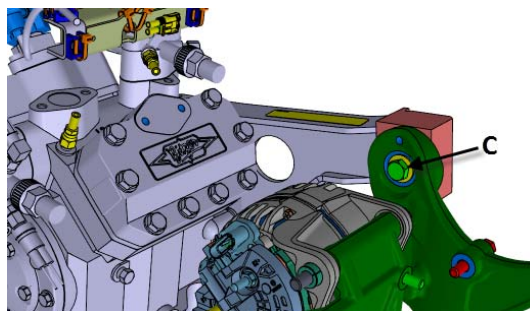

FIGURE 25
35. Snug bolts **C** & **E** (FIGURE 24 & FIGURE 25).